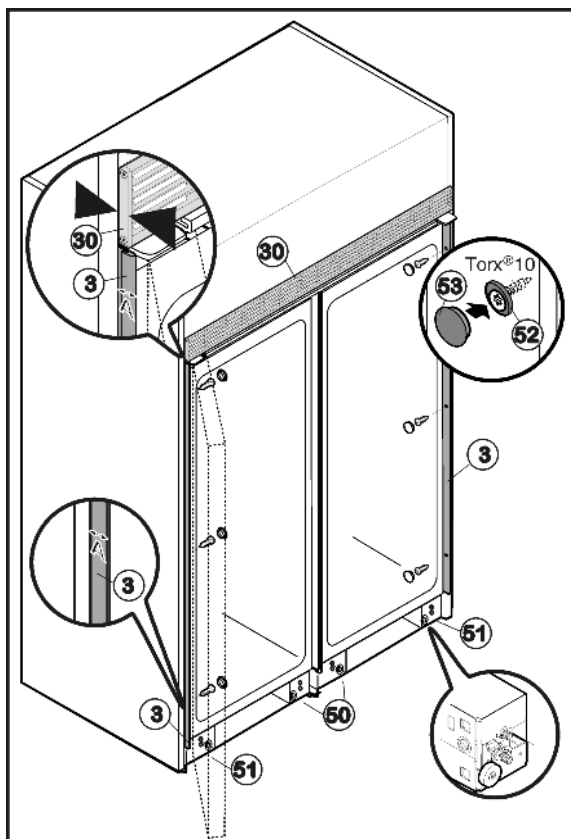

Fig. 50
- Push the appliance into the recess until the rear edge of the ventilation grille Fig. 50 (30) is flush with the front edge of the side wall of the cabinet.
- Completely screw in the two centre roller bases Fig. 50 (50) at the front and rear such that the appliance is only resting on the outer roller bases. This enables the two appliances connected to each other to be aligned jointly like a single appliance.
- Align appliance inside the recess by adjusting the outer roller bases Fig. 50 (51) and using a spirit level.
- At the top and bottom of the recess check the gap A between the front edge of the installation strip Fig. 50 (3) and the front edge of the side wall of the unit. It must be 1/2 " (13 mm). Realign the appliance in the recess if required.
- Secure appliance inside the recess using three screws Fig. 50 (52) hinge side of each appliance. Do not scratch the side installation strip Fig. 50 (3) when doing so.
- Place cover caps Fig. 50 (53) over the screws.
- Being careful not to affect the level, lower the levelling wheels in the center roller bases Fig. 50 (50) until they are resting on the floor.
- Fit lower ventilation grille Fig. 50 (54) flush with the floor such that the rubber lip is at the top. It is held in place via magnets.